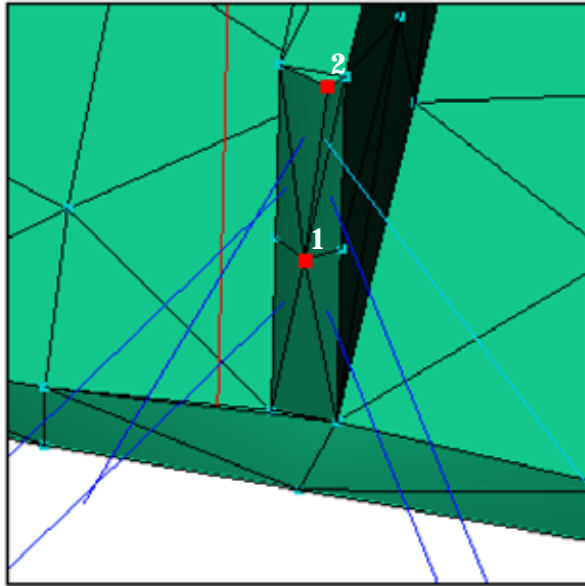

Figure 152: Node positions to measure
3. Zoom in or out so your image looks about like Figure 152.
4. Click the Measure icon  and click on positions 1 then 2 as shown in Figure 152.
- 5.1. Click on the node at position 1 in Figure 152 for the **Base** coordinate.
- 1.2. Select the node labeled 2 in Figure 152.